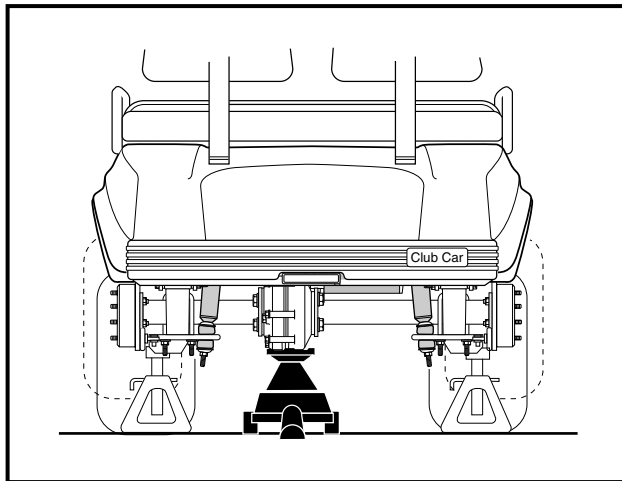

Figure 15-2 Vehicle Raised with Floor Jack
4. Place floor jack under transaxle and raise rear of vehicle (**Figure 15-2, Page 15-3**) then place jack stands under frame crossmember between the spring mount and the side stringer, just forward of each rear wheel. Lower the vehicle to let the jack stands support the vehicle (**Figure 15-3, Page 15-3**). See following **WARNING**.